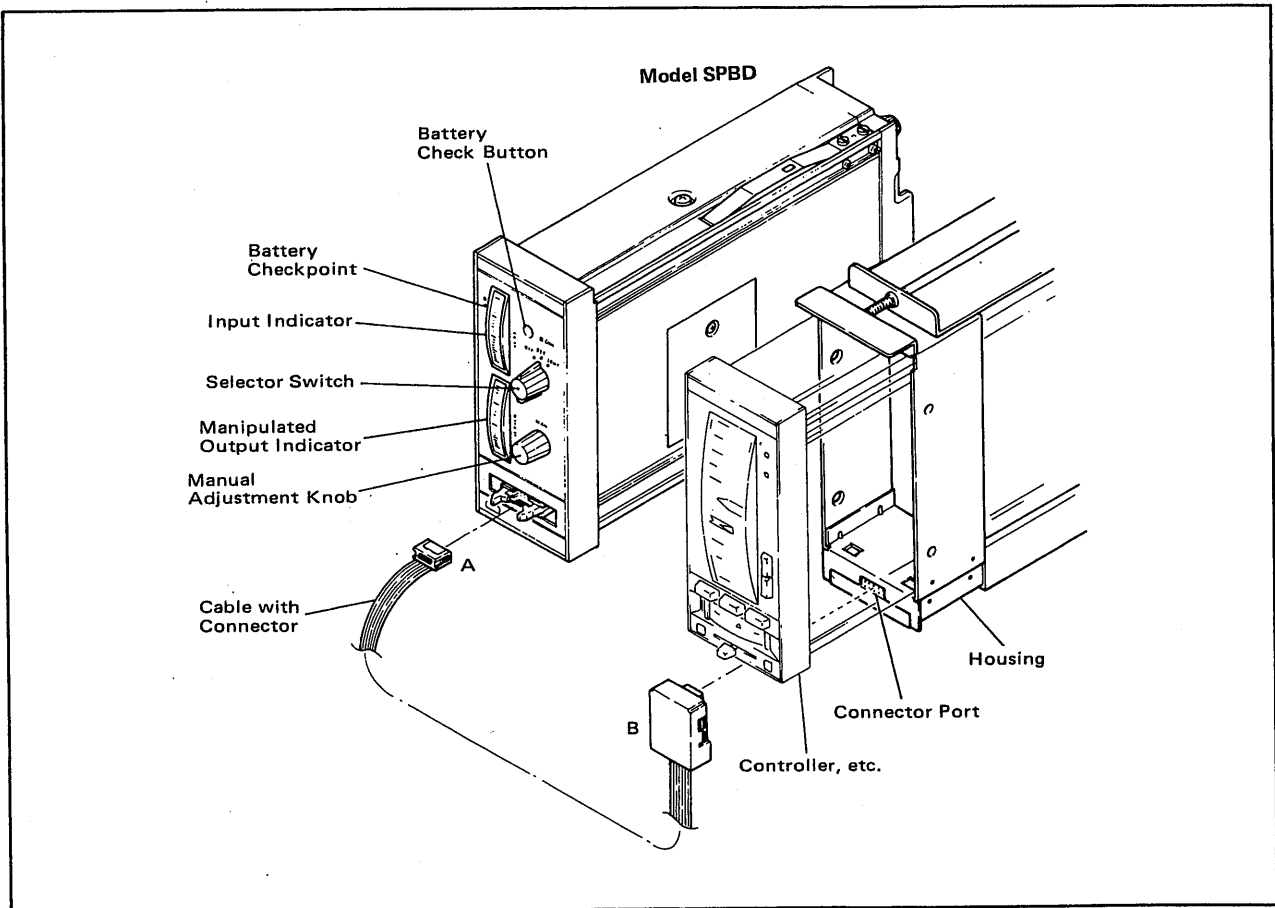

Figure 5-15. SPBD Connection.
When replacing the SMST-121, insert the connector of the cable from the SPBD standby manual station into the jack at the bottom of the housing to route the current output signal from the SMST to the SPBD. (See Figure 5-15).
- (2) Insert the cable from the SPBD manual control station into the jack at the bottom of the housing and switch the output signal from the SMST to the SPBD. (See Figure 5-15.)
- (3) Select the CHECK switch on the tuning panel for possible causes of a failure. (See 5-4-4.)